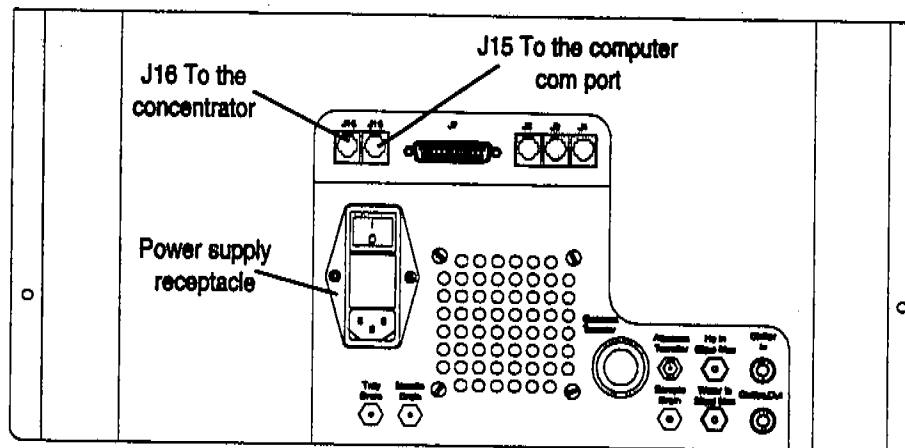

Figure 3-13 Locating J16
2. Locate J16 on the back of Precept II (Figure 3-13).
5. Locate the power cord in the installation kit. Plug one end of the cord into the power supply receptacle (Figure 3-13) and the other end into a wall outlet.